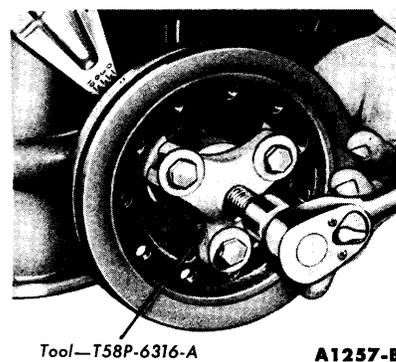

FIG. 45—Crankshaft Damper Removal
7. Remove the cap screw and washer from the end of the crankshaft. Install the puller on the crankshaft damper (Fig. 45) and remove the damper.